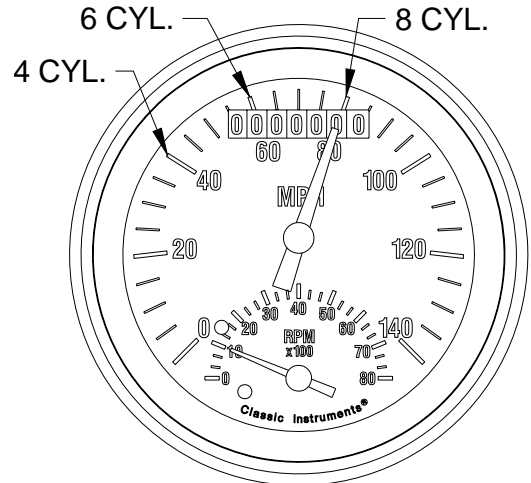

FIG. 3
- 1) Tap the pushbutton until the tachometer points to 1000 RPM (tachometer cylinder setup option). Fig. 3